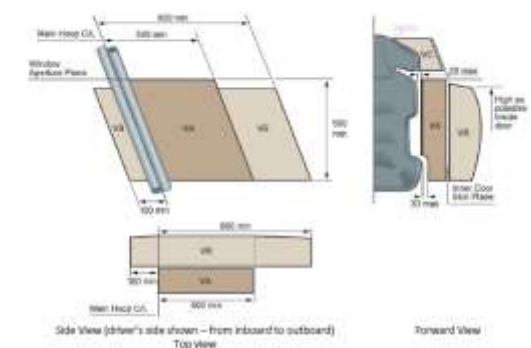

Figure 1: Minimum geometry for door foam and head foam volumes
2.2.1 FIA 8866 energy absorbing foam shall fill the entire volume defined by the lateral area of the seat-side-head projected outwards in a transverse direction to the side glazing or B-pillar (Volume C in Figure 1).
The foam shall conform to the minimum geometry shown in Figure 1, fulfilling the following additional requirements: